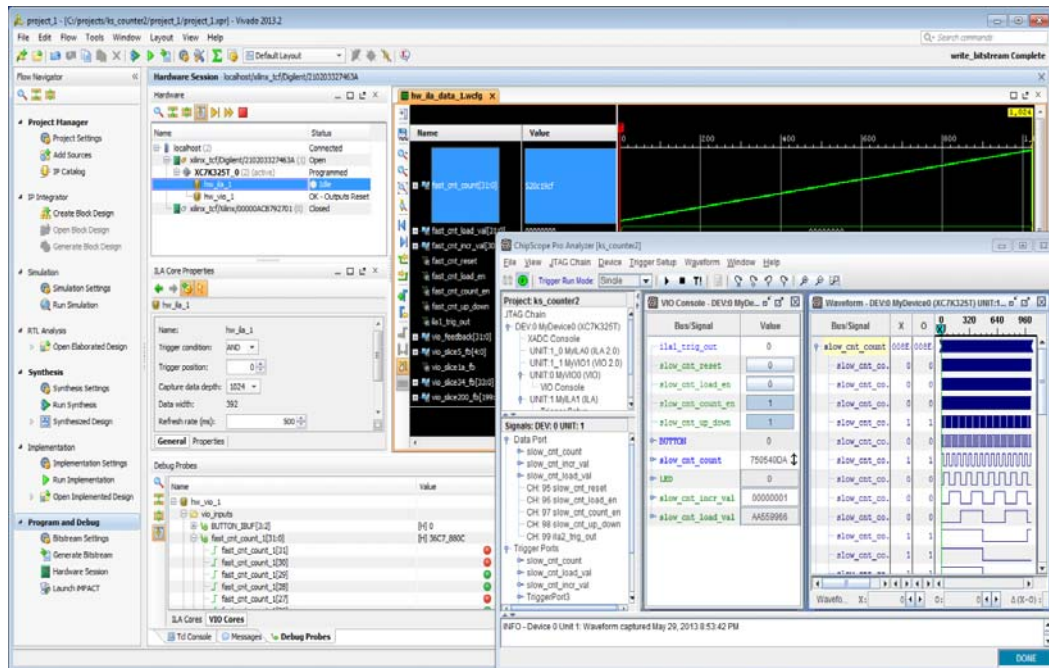

Figure 5-24: Using Vivado Logic Analyzer Feature and ChipScope Pro Analyzer Tool to Debug the Design
- Use each of the run time analyzer tools to interact with their respective debug cores (see Figure 5-24).